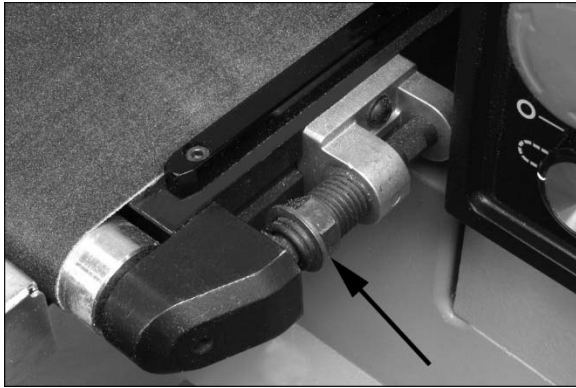

Figure 11
2. Adjust take-up screw nuts (Figure 11) with a 17mm wrench. Do this on both sides of conveyor to obtain approximately equal tension on both sides of sanding belt when taut.
2. Turn on conveyor and set to maximum speed. Watch for a tendency of conveyor belt to drift to one side of conveyor. If it drifts, tighten or loosen take-up screw nut on *right side* of conveyor (Figure 11).